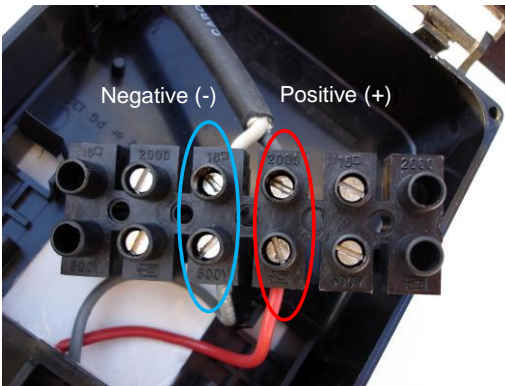
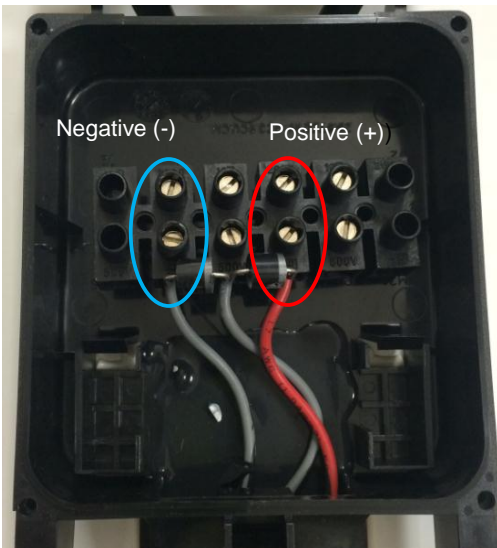

Figure 32: Power Cable Connection to Solar Cell Terminals (Supplier part number 485J and 490J. See solar panel instructions for details.)
Figure 33: Power Cable Connection to Solar Cell Terminals. (Supplier part number 90J. See solar panel instructions for details).
- Next, attach the power cable to the Solar Cell screw terminals as shown in Figure 32 and Figure 33.